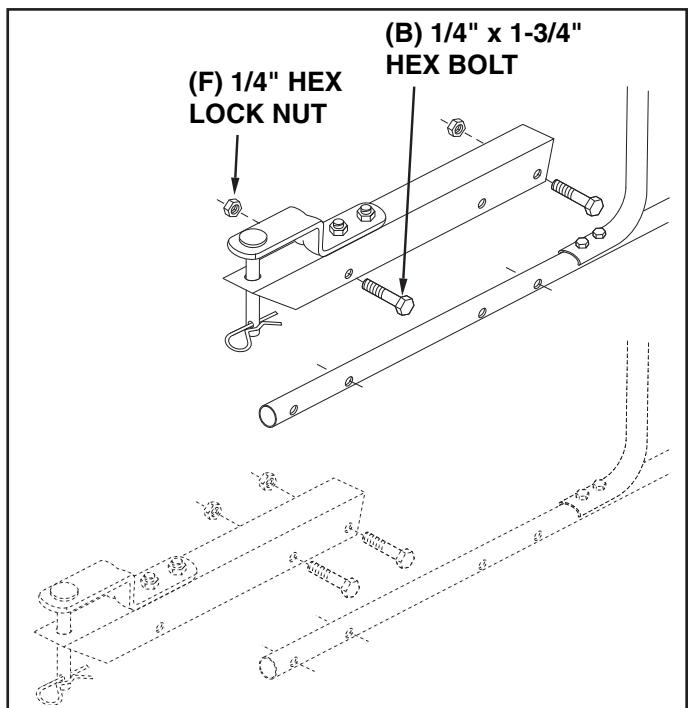

FIGURE 14
27. For most vehicles, assemble the hitch extension bracket to the holes in the hitch tube shown at the **top** of figure 14. Use two 1/4" x 1-3/4" hex bolts (B) and 1/4" hex lock nuts (F) tightened only finger tight. Attach the spreader hitch to your vehicle hitch. Check for interference with the spreader directly behind and out to both sides of the vehicle. Lift the spreader at each position to make sure there is no interference with the spreader's flow control. If there is interference with the rear of the vehicle, assemble the hitch extension bracket as shown at the **bottom** of figure 14.